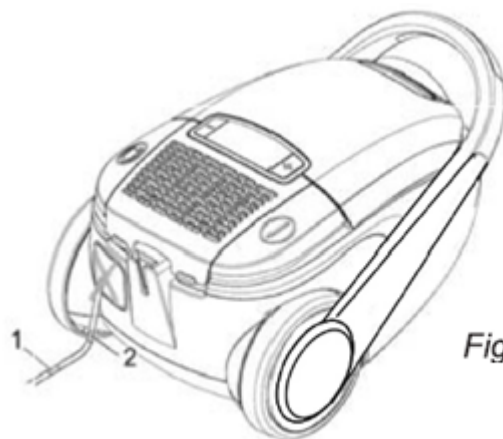

Fig. 10
2. Pull the power cord until the yellow marking is visible (Fig. 10/1)